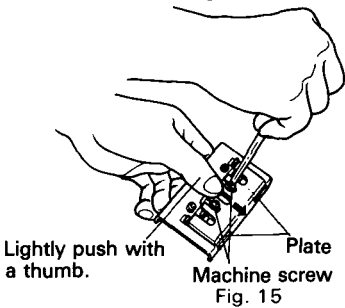

Fig. 15
- (3) Holding the set gauge with the blade edge facing downward as shown in Fig. 15, loosen the temporarily fastened machine screws and lightly push the cutter blade with a thumb until the cutter blade gently touches Plate.